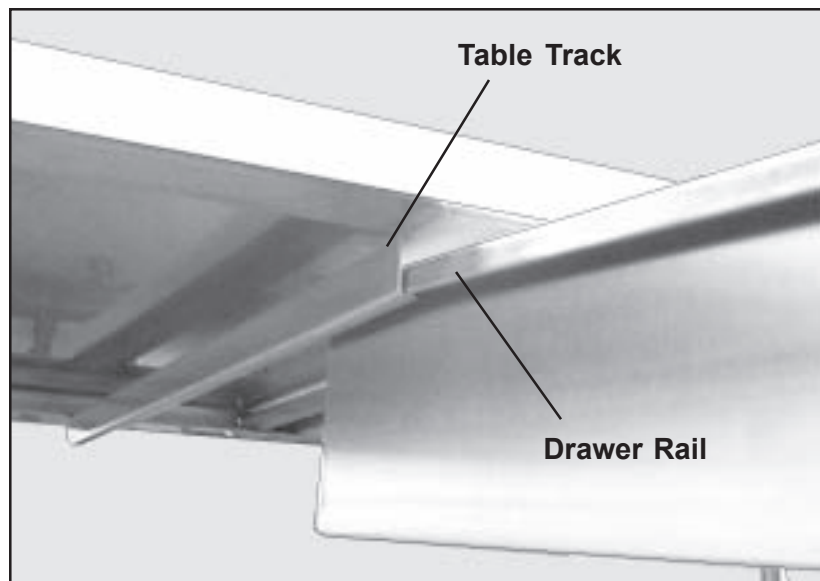

Figure 3. Inserting the Drawer into the Table
3. To replace the drawer, place the rails on the drawer sides over the tracks in the table (Figure 3), and push the drawer in.